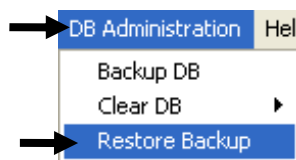

Fig. 10.7
- 1) Select the **Restore DB** option from the **DB Administration** menu (Fig. 10.7).